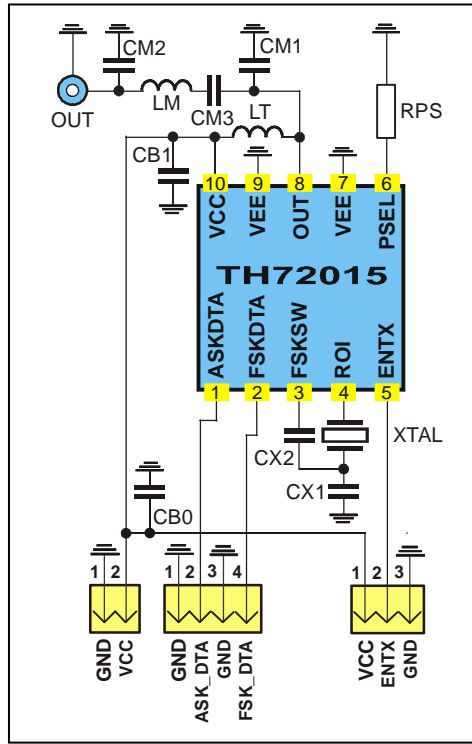

Fig. 18: Test circuit for FSK and ASK with 50 Ω matching network
typical values at $T_A = 23\text{ }^\circ\text{C}$ and $V_{CC} = 3\text{ V}$; test circuit shown in Fig. 18, $f_c = 433.92\text{ MHz}$
- Data according to test circuit in Fig. 18
6.1 Test circuit component list to Fig. 18